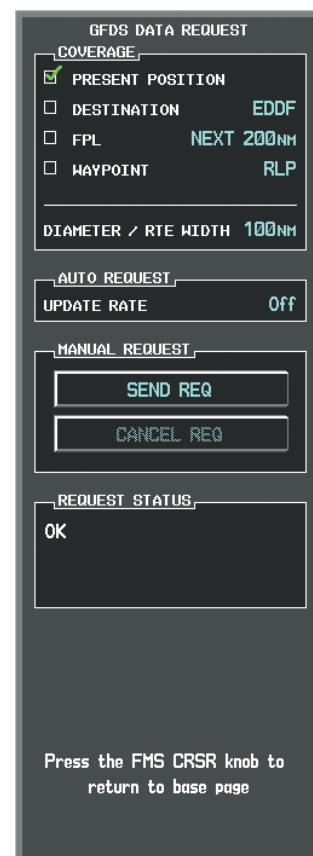

Figure 6-57 GFDS Data Request Window
- 4) Turn the large **FMS** Knob to highlight the desired coverage option(s) and press the **ENT** Key to check or uncheck one of more of the following coverage selections (Figures 6-57, 6-58):